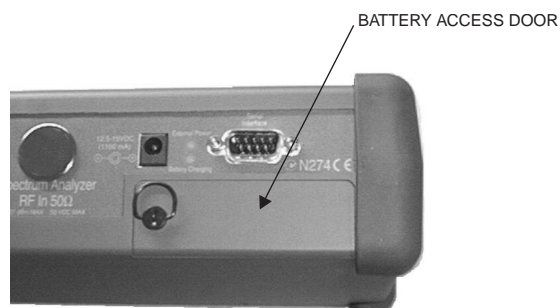

Figure 4. Battery Access Door Location
1. With the Site Master standing upright on a stable surface, locate the battery access door (Figure 4).